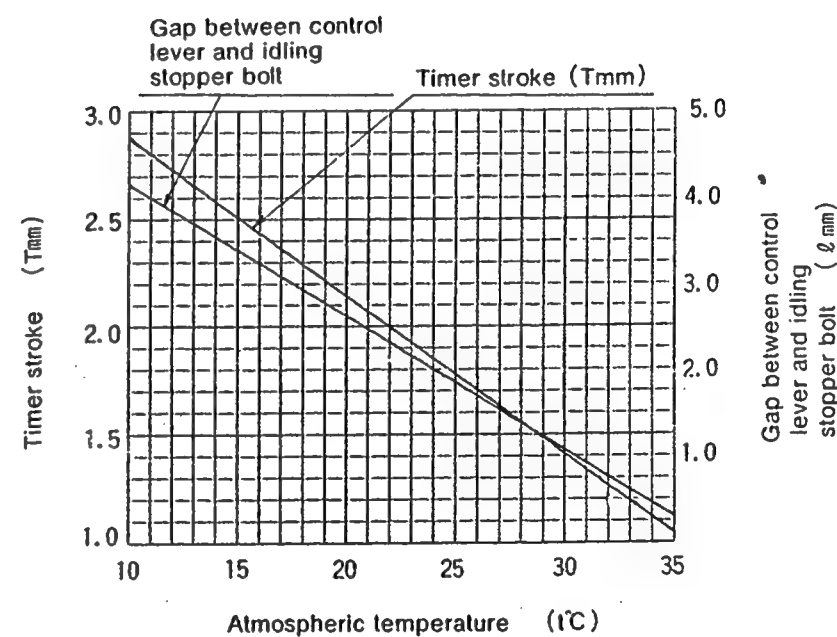

Fig. 2
1. Calculate the block gauge dimension  $\ell \pm 0.05\text{mm}$  from Fig. 2 according to the atmospheric temperature at the time of adjustment.
1. Calculate the timer stroke from Fig. 2 according to the atmospheric temperature at the time of adjustment.